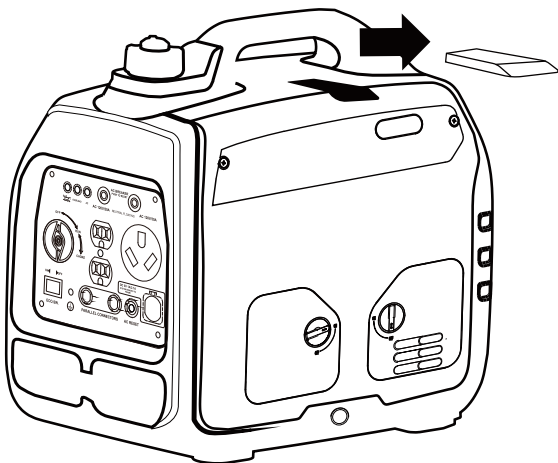

Figure 18: Slide off spark plug cover
- 3. Slide the spark plug access cover off the housing (see Figure 18).